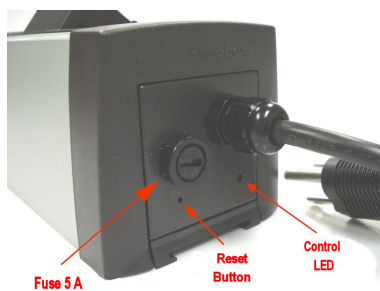

Fig. 2: Detail
- On executing the **OFF** command, the router is inaccessible until you press the MTC-1 *RESET button* (see Figure 2).